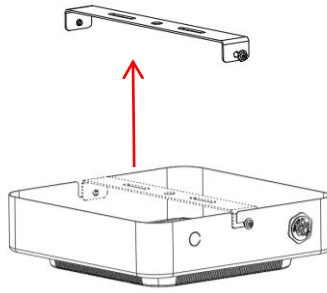

Figure 2
2. Separate the lamp body from the bracket(see Figure 2).